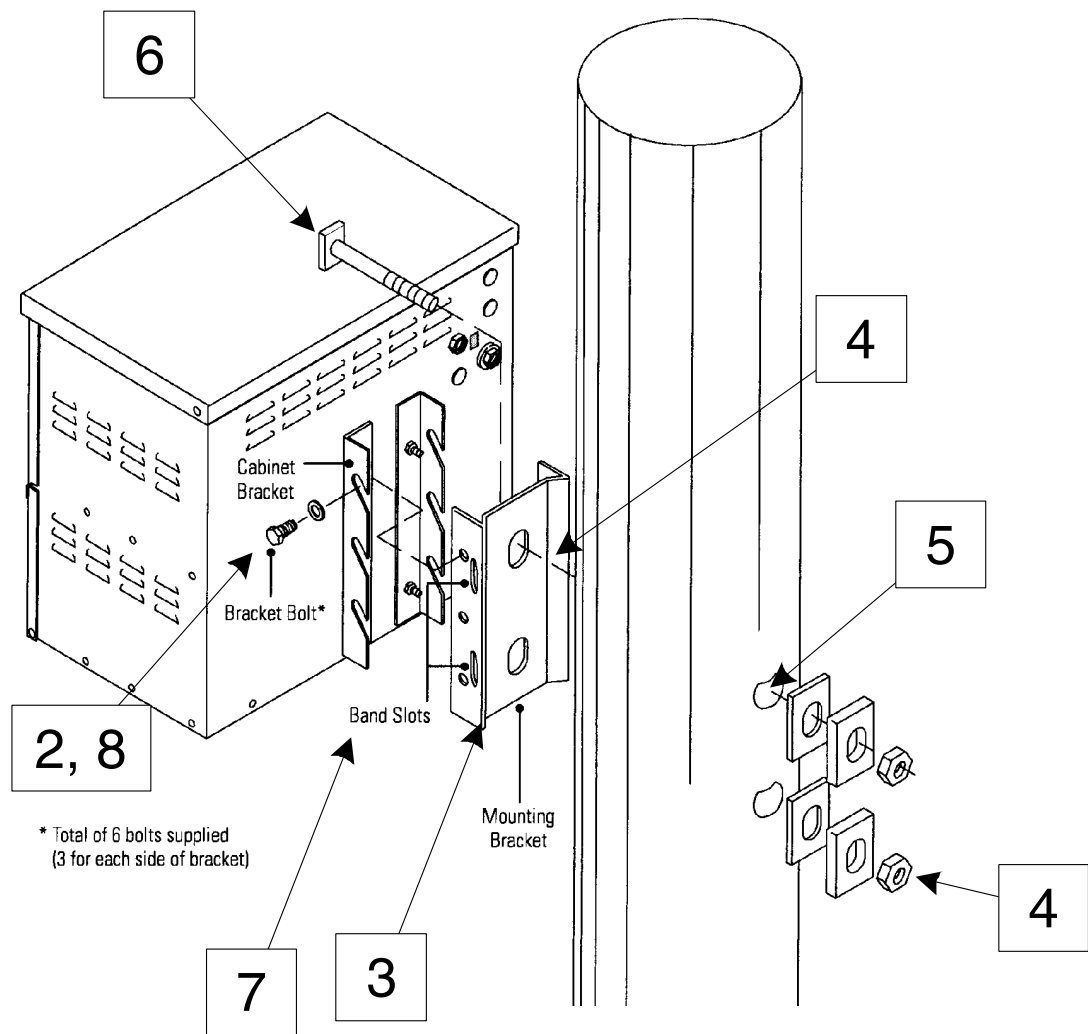

Fig. 2-2 Exploded View, Pole Mounting Arrangement
3. Remove the U-shaped mounting bracket from the cabinet rear panel (see Figure 2-2).